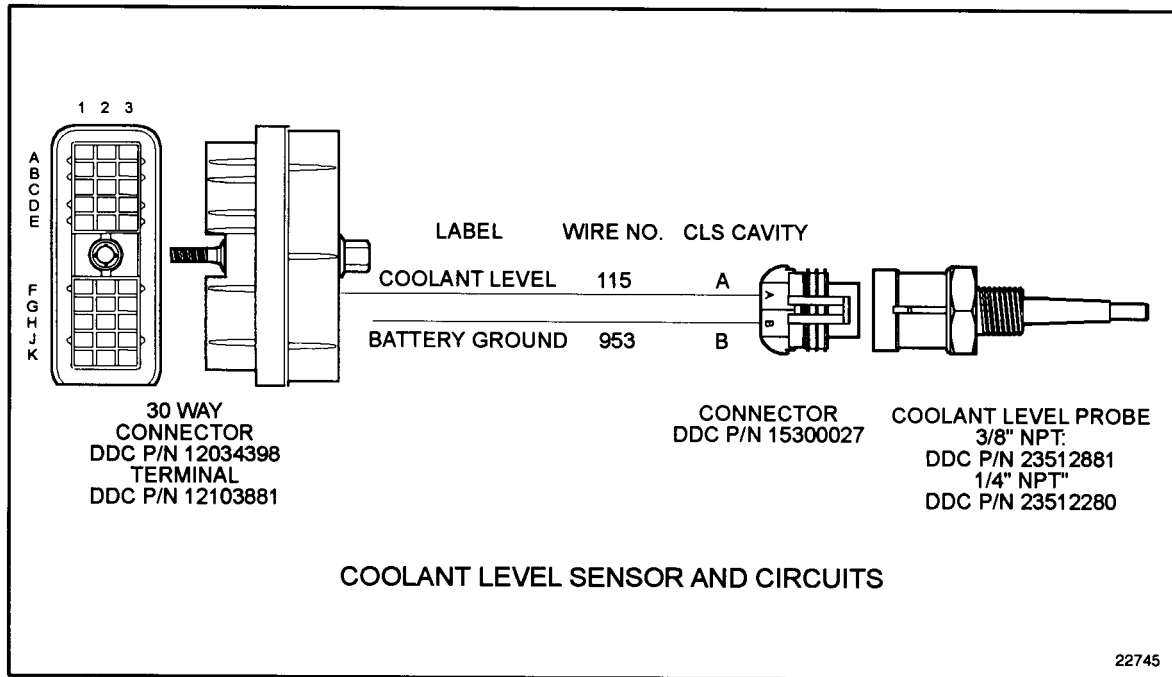

Figure 16-2 Coolant Level Sensor and Circuits
4. Measure voltage at cavity A (#115 signal) of the CLS connector and battery ground. See Figure 16-2.